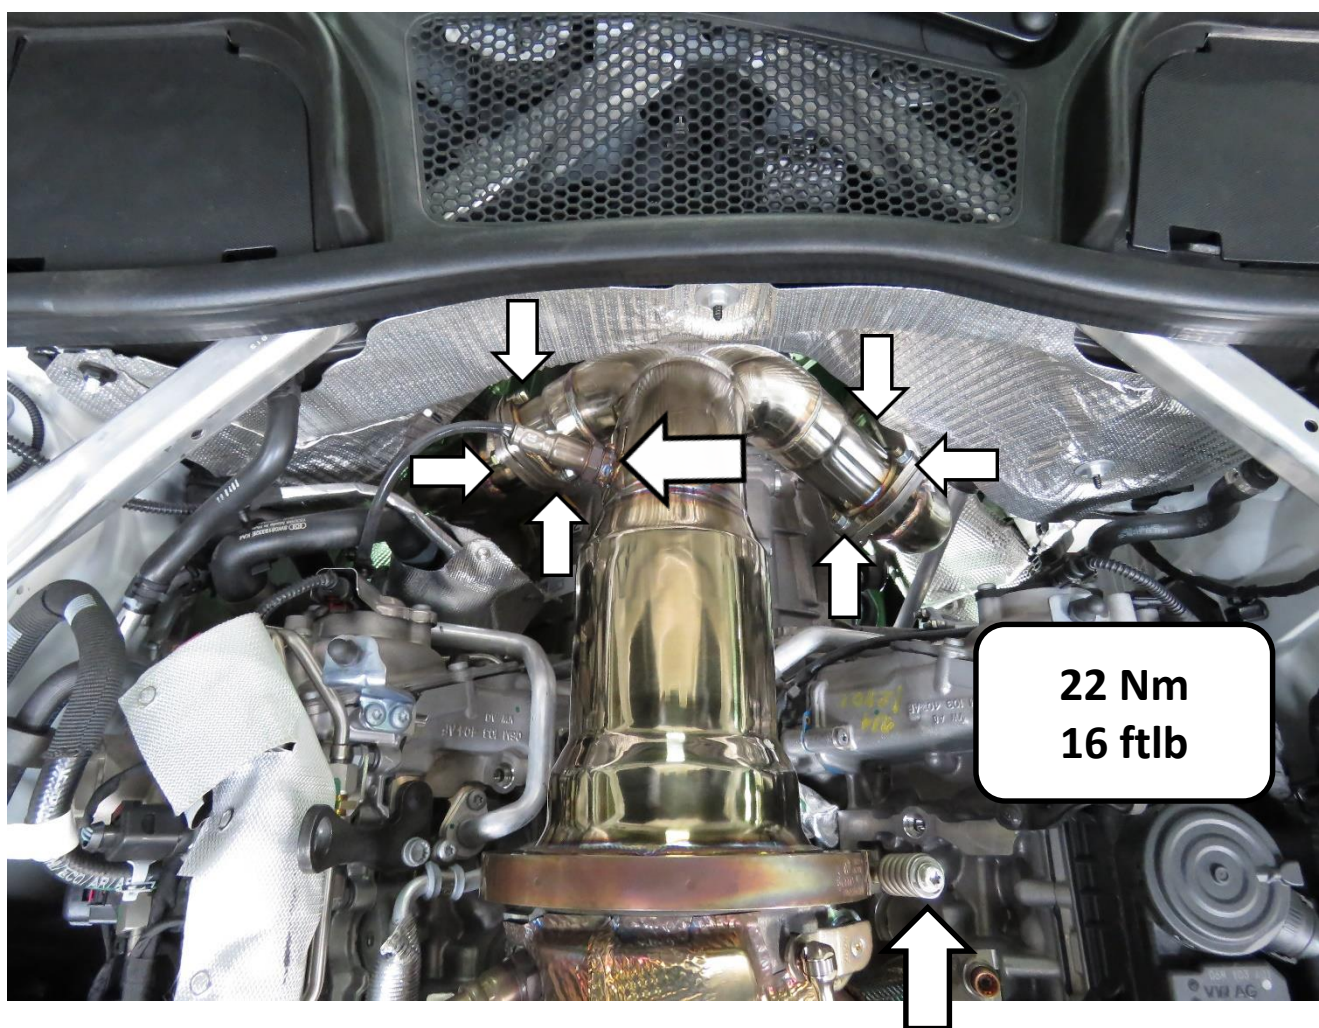

Figure 5
- 1) Position the catalyst without locking; lock the oxygen sensor first. Only lock catalyst ring after front pipe is positioned and locked (Figure 5).